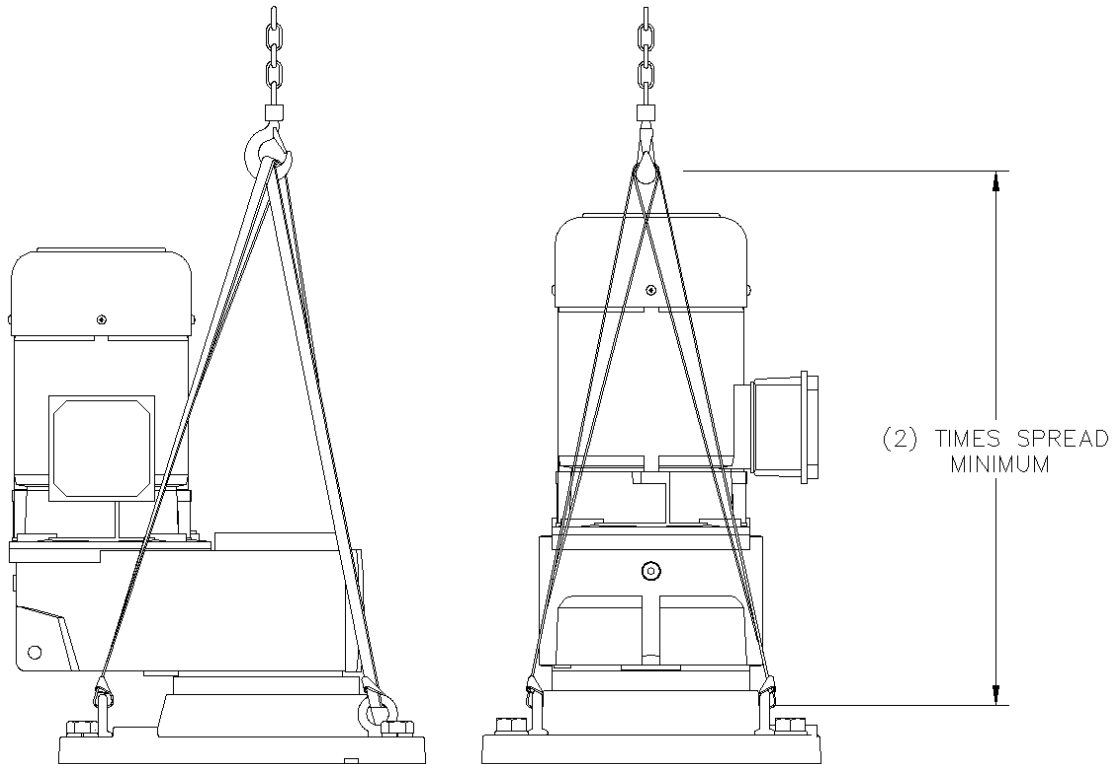

Figure 13. Agitator Lifting System
6. Lift the agitator drive (Figure 13, page 31).